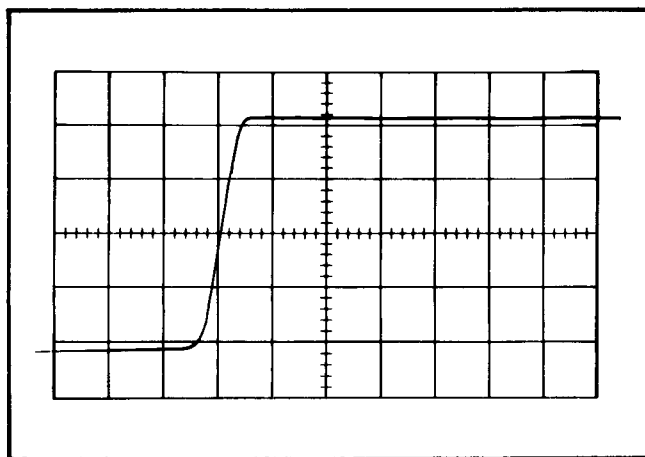

Fig. 5-7. Typical crt display showing correct high-frequency compensation.
f. Check—Crt display for optimum square-wave response (see Fig. 5-7).
i. Check—Crt display for optimum square-wave response (see Fig. 5-7).
l. Check—Crt display for optimum square-wave response (see Fig. 5-7).
p. Check—Crt display for optimum square-wave response (see Fig. 5-7).
s. Check—Crt display for optimum square-wave response (see Fig. 5-7).
v. Check—Crt display for optimum square-wave response (see Fig. 5-7).